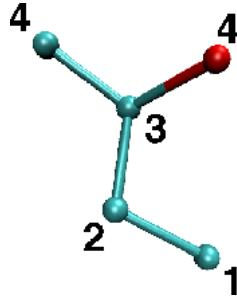

Figure 4: Number labels for atoms which are a given amount of bonds away from one another
- **temperature**: sets the initial temperature of the system in Kelvin (K), with the value listed next to it (in this case \$temperature, or 310). This is done by assigning random velocities to atoms picked from a Maxwell distribution such that their average kinetic energy accurately represents the given temperature.
- **exclude**: specifies which atomic interactions are to be excluded from consideration. See Figure 4 for general atom labels. The